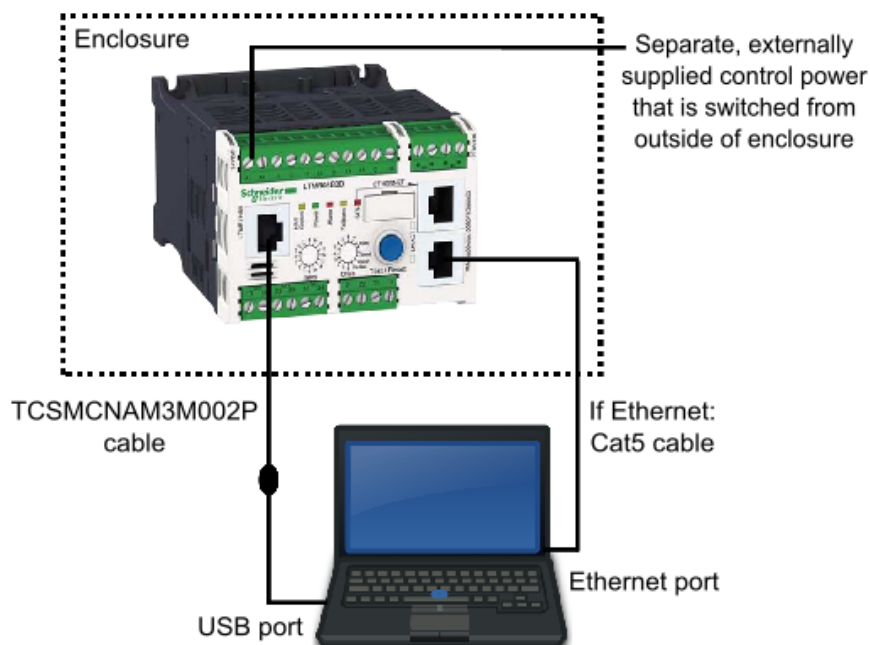

Figure 13
Two physical links shall be established between your PC and the LTMR, as per Figure 13.
1. Connect the Ethernet cable as shown in the diagram on Figure 13.